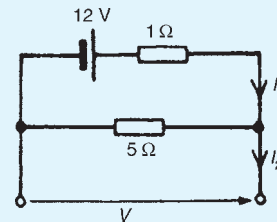

Figure 13.91
- For the circuit shown in Fig. 13.91, voltage V is:
- For the circuit shown in Fig. 13.91, current I_1 is:
- For the circuit shown in Fig. 13.91, current I_2 is: